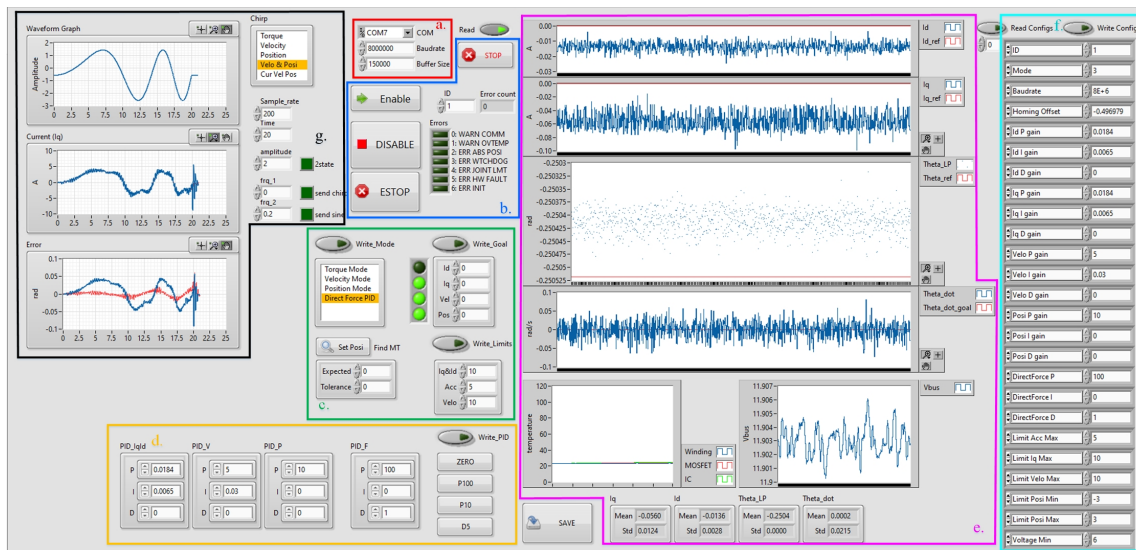

Figure 20: The front panel of Data_Ctrl VI.
- 5) **Tuning Interface: RS485.Data_Ctrl** When it comes tuning or debugging your BEAR using LabVIEW, the **RS485.Data_Ctrl** VI is a very handy tool. The front panel of Data_Ctrl is as shown in figure 20, and it is introduced section by section as below.